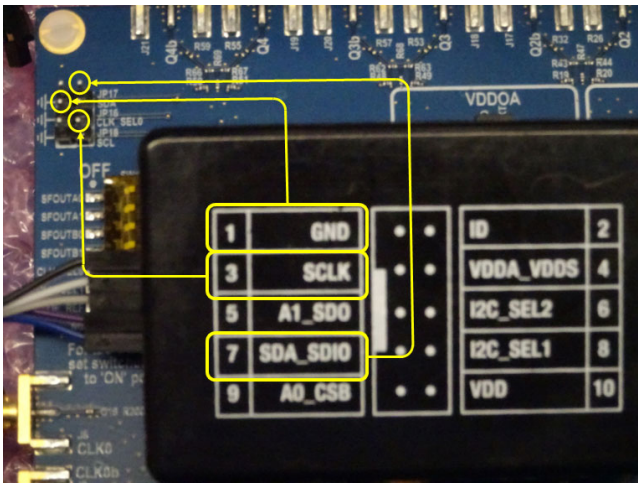

Figure 41. Connecting the Field Programmer Dongle to the CEVB
- 2. Connect the Field Programmer Dongle to the CEVB as shown in Figure 41 and Table 11 below.